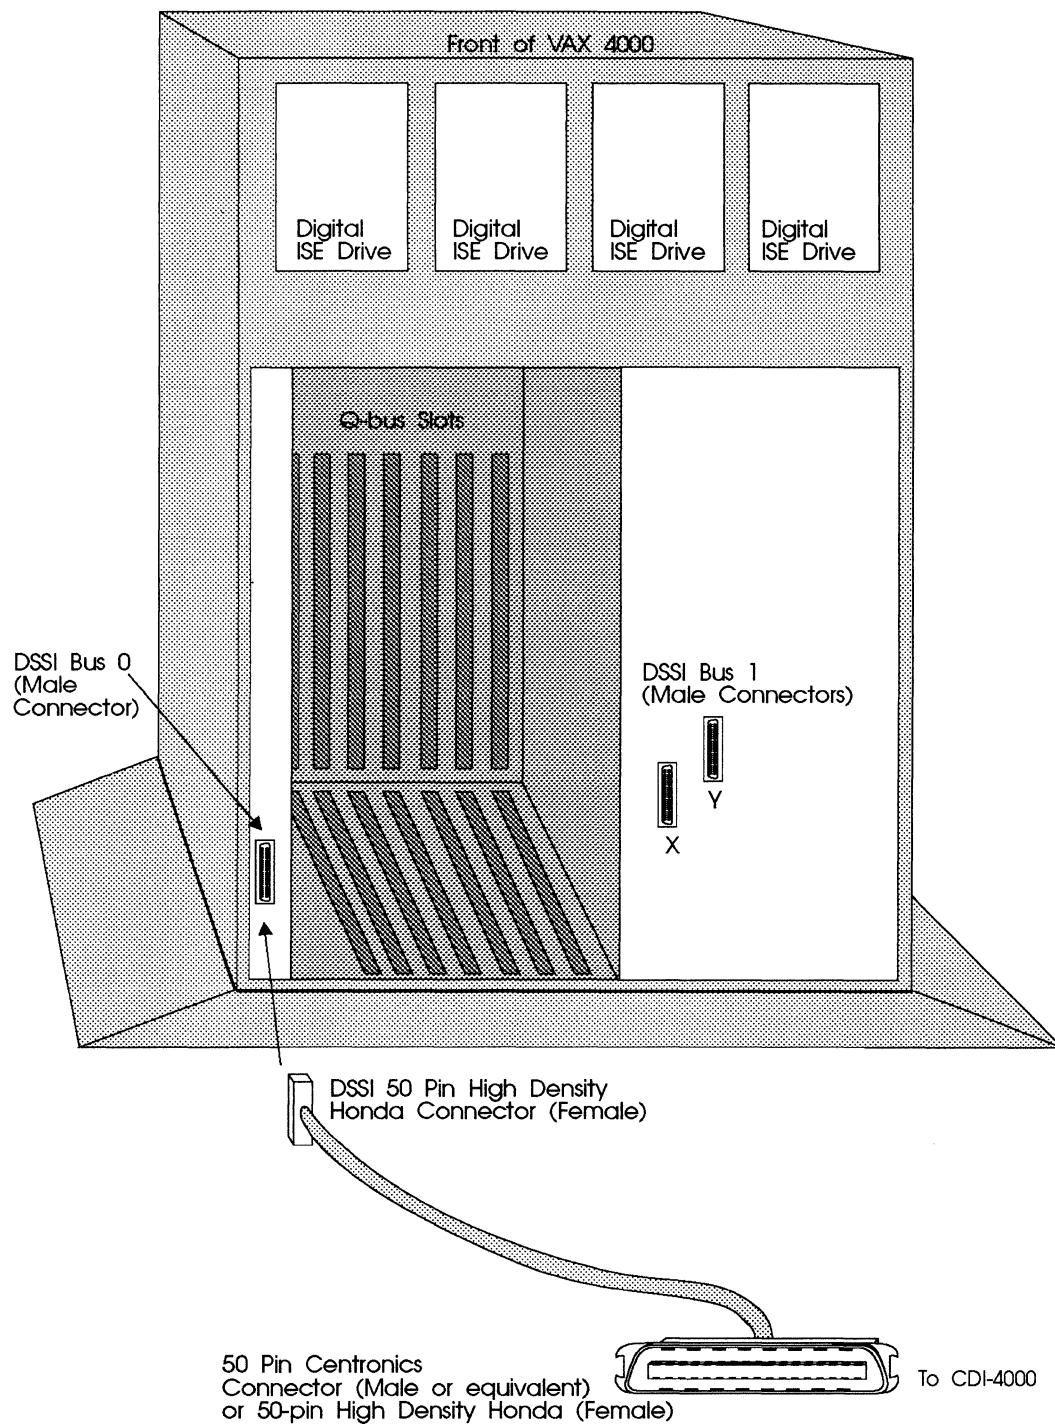

Figure 3-8: Host Computer DSSI connection
- 3 Connect one end of the DSSI cable to the DSSI connector of the host computer as shown in Figure 3-8.